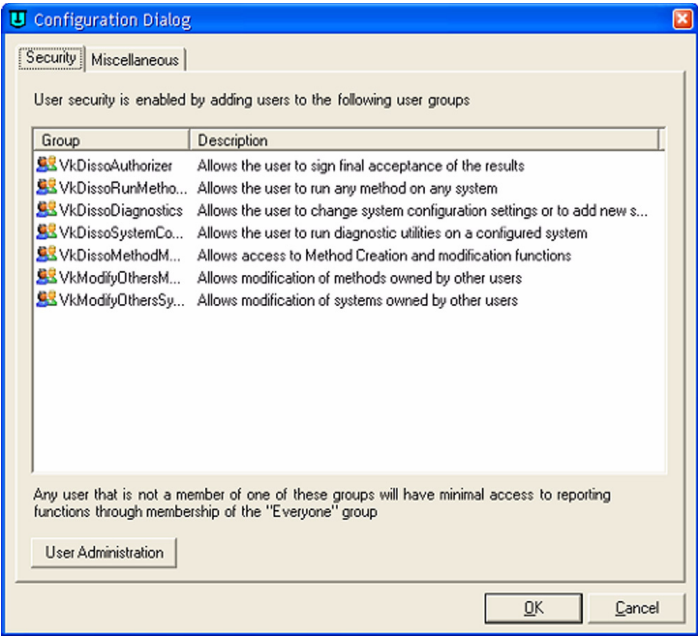

Figure 10 Configuration Dialog screen
- 7 After successfully logging onto the software, click **Tools > Options**. The Configuration Dialog screen displays (see Figure 10, “Configuration Dialog screen,” on page 40).